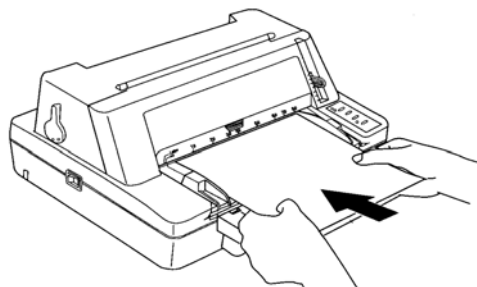

Figure 3-4 Loading cut sheet
- 4 Set the gap adjust lever for example to the position "1" for thin paper and then insert the paper as shown in Figure 3-4.